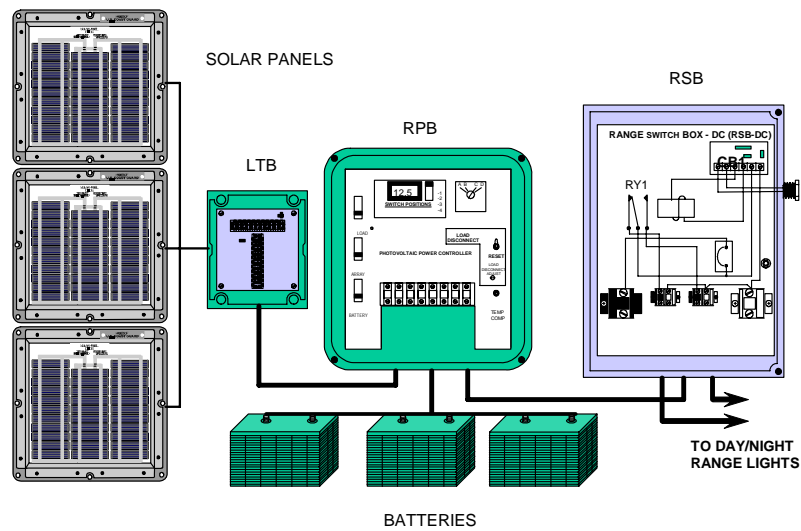

Figure 1-2
2. Day/Night Ranges. Day/night ranges generally use more power than a typical minor aid. Multiple solar panels are terminated into a Local Terminal Box (LTB). Overcharge protection, disconnects and low voltage cutoff are provided by the Range Power Box (RPB). Batteries are multiple 2-volt cells wired in series (Exide Classic, Absolyte II, Dryfit) or, for small systems, up to 4 minor aid batteries wired in parallel. The Range Switch Box (RSB) controls which light (day or night) operates. With the exception of the day/night lanterns, the power and control system is shown in Figure 1-2.